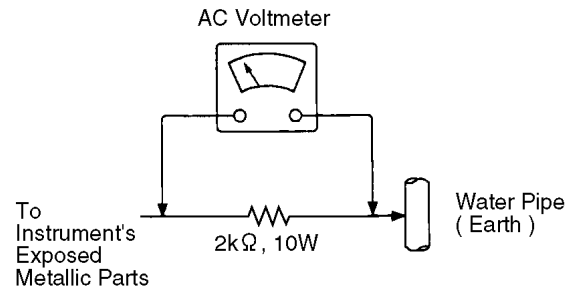

Fig. 1
1.3. Leakage Current Hot Check (See Fig. 1)